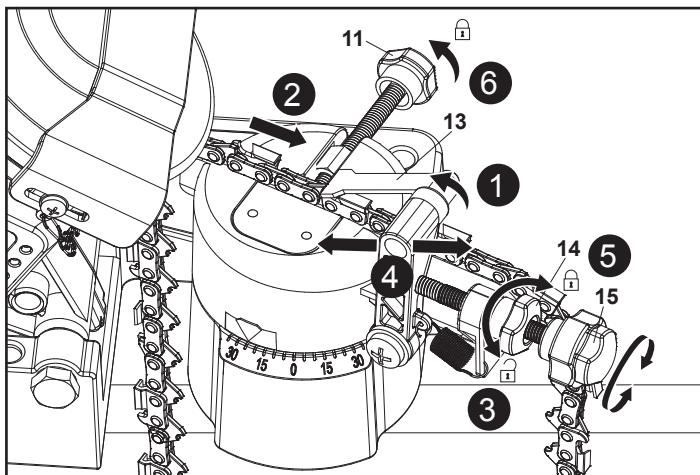

Fig. 6
1. Flip the chain stop (13) forward and let it rest just behind the cutting chain link to be sharpened (Fig. 6, step 1).
2. Tension the saw chain backwards against the chain stop (13) (Fig. 6, step 2).
3. Rotate the motor housing (4) by its operation handle (2) to check how much material will be grinded off.
4. Adjust the position of the chain stop (13) by loosening the locking knob (14) anticlockwise firstly and then turning the adjusting knob (15) clockwise for pushing the chain stop (13) forward or anticlockwise for backward (Fig. 6, steps 3, 4).
5. Rotate the motor housing (4) by its operation handle (2) repeatedly to verify the setting.
6. Secure the chain stop (13) by turning the locking knob (14) clockwise (Fig. 6, step 5).
7. Once the desired setting is reached, close the vice jaw by turning the clamping knob (11) clockwise to clamp the saw chain in this position (Fig. 6, step 6).